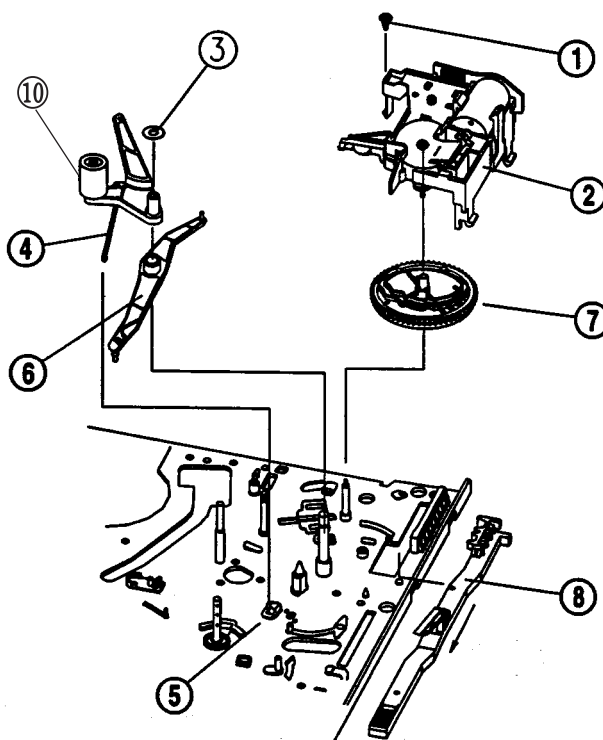

Fig. 22- Replacement of L/C Bracket Total Assembly/Pinch Lever Total Assembly/cam Gear/Relay Lever/F/L Rack
L/C Bracket Assembly removal (Fig. 22)
1. Remove one (1) screw ① from the L/C bracket assembly ② and remove the L/C bracket assembly ② from the deck mechanism (Fig. 22)
Replacement of Pinch Lever Total Assembly Removal (Fig. 22)
Cam Gear, and F/L Rack Removal (fig. 22)